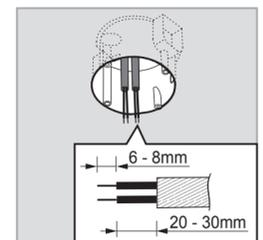

FIG.9
3.4.1.2 Pull out AC power cables from junction box (See FIG.9), then strip off 6 - 8mm of cable sheathing for wiring.
3.4.1.4 Fix the sensor head on power box by inserting its four non-dropping screws into the corresponding screw holes, then cover up the decorative frame (See FIG.9).